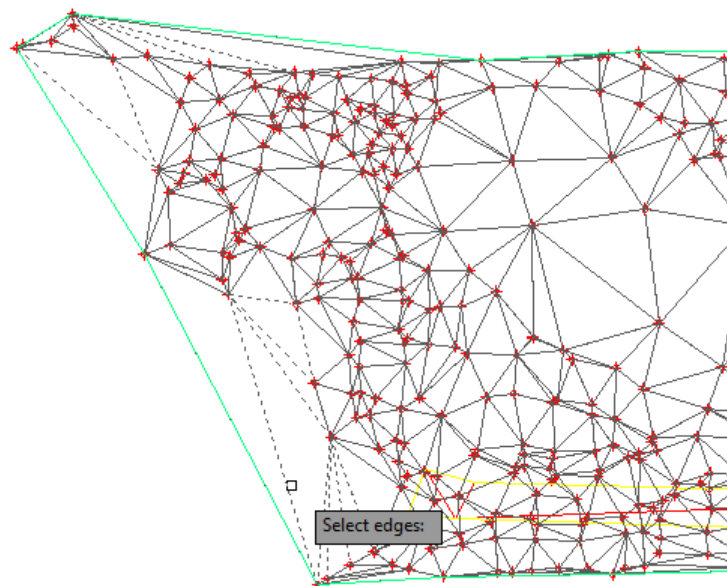

Figure 3-67 Selecting the longer edges of the triangles
5. Select all the longer edges on the left side of the surface and shorter edges on the top left corner, as shown in Figure 3-67.